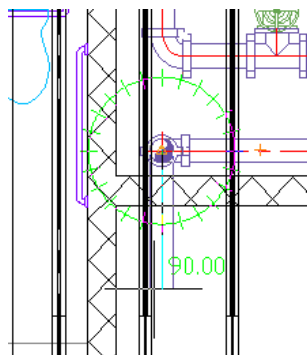

Figure 6.80
1. This will change the AutoCAD MEP Compass to the plan view. You should now see the compass circle (see Figure 6.80).